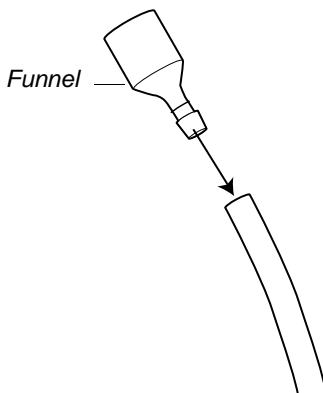

Figure 2-23. Fitting a funnel to a tubing
- 4 Cut the tubing to appropriate lengths. Fit the funnels to the tubings, see Figure 2-23.